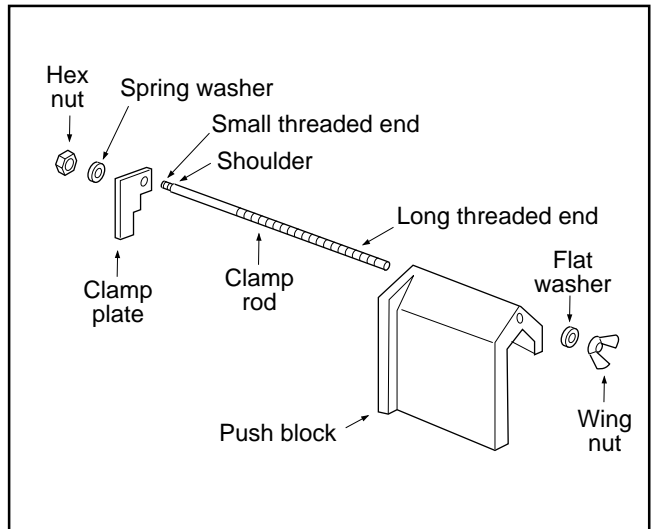

Fig. L.1
2. Screw the smaller threaded end of the **Clamp Rod** into threaded hole in **Clamp Plate** until the plate bottoms on it's shoulder (make sure clamp is oriented such that letter 'C' is facing outwards as shown in fig. L.1) and tightly secure **Clamp Plate** to **Clamp Rod** with a 11mm AF spanner.